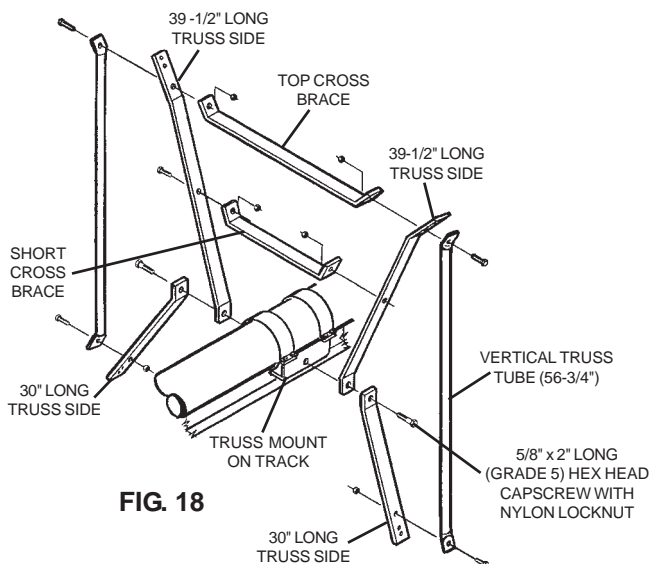

FIG. 18
8. Loosely bolt the 39-1/2" and 30" long truss sides to the main truss mount on the track using 5/8" x 2" long (grade 5) hex head capscrew with nylon locknuts. See Fig. 18.
9. Bolt the short cross brace between the 39-1/2" long truss sides, using two 3/8" x 1-1/2" long (grade 5) hex head capscrew and nylon locknuts. Bolt the top cross brace between the truss sides and the vertical truss tubes, using two 3/8" x 1-1/2" long (grade 5) hex head capscrews and nylon locknuts. Bolt the other end of the vertical truss tube to the 30" truss sides, using two 3/8" x 1-1/4" long (grade 5) hex head capscrews and nylon locknuts. See Fig. 18. Tighten the hardware holding the truss sides to the truss mount.